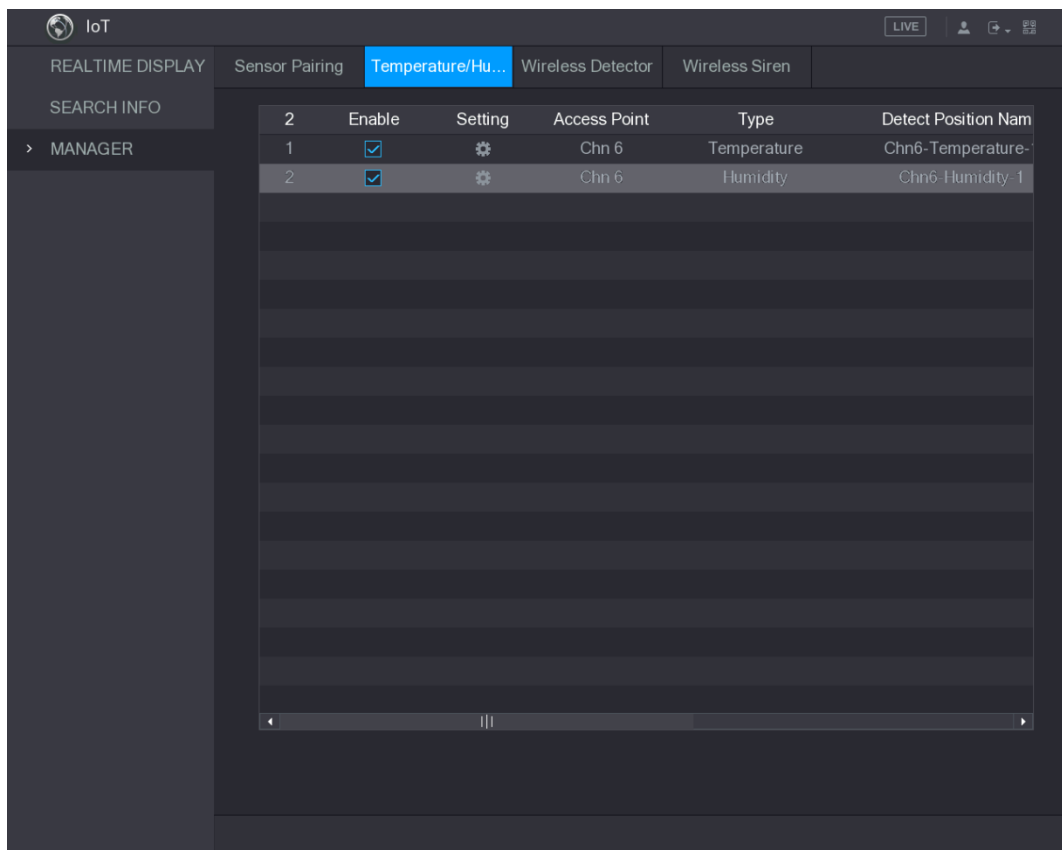

Figure 5-182
Step 2 Select the **Enable** check boxes to enable IoT function. See Figure 5-182.